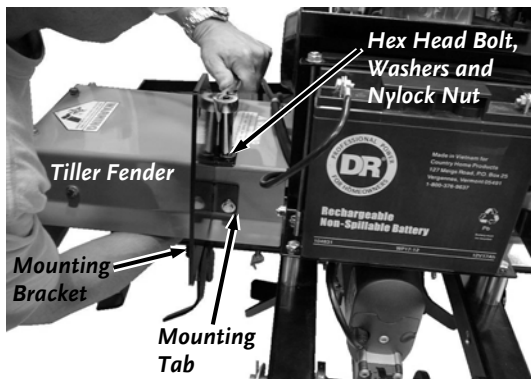

Figure 4
2. Position the left hand Mounting Bracket onto the back face of Tiller Fender (**Figure 4**), with mounting tabs facing in, and replace the hardware you removed in step 1. Install a 5/16-18 X 1" Hex Head Bolt (on top), Washer and Nylock Nut (1/2" Wrench) to secure the Bracket to top of the Tiller Fender. Repeat this step to install the right hand Mounting Bracket.